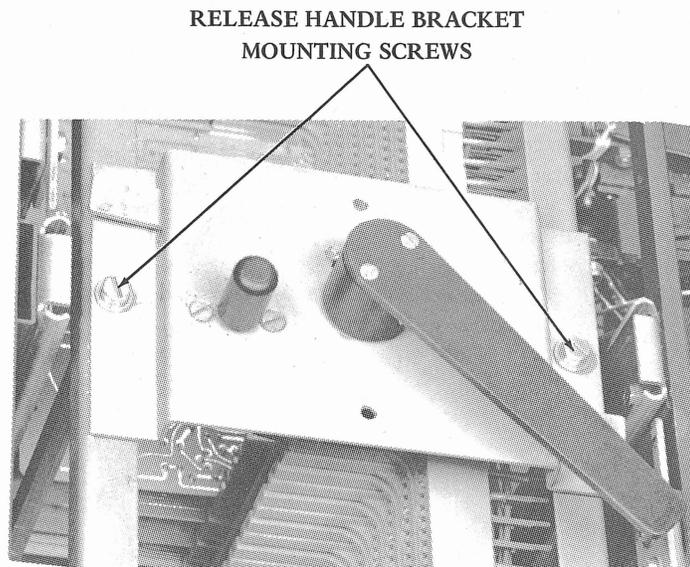

Figure 6 - Module Release Handle
- (c) Remove a screw, spacer, lockwasher, and flat washer from each side of the module release handle mounting bracket (Figure 6). Remove the release handle bracket assembly.